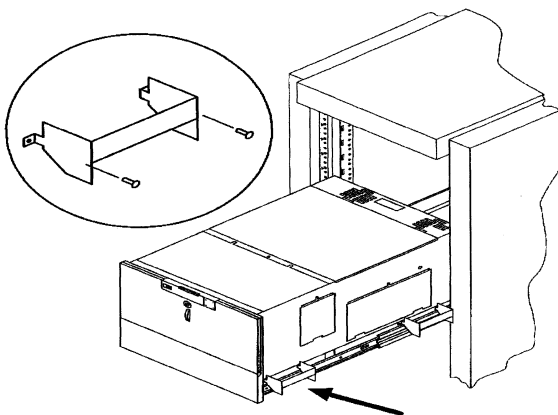

Figure 5-6. Attaching the Lifting Handles to the Library
3. Attach the four lifting handles (two on each side). See Figure 5-6.